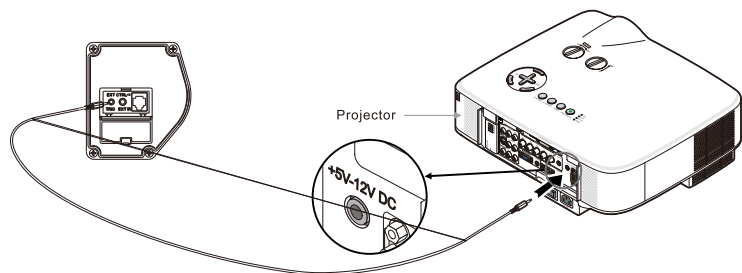

Figure 22
1. Insert one end of the trigger wire into the trigger jack located on the left side of the screen casing's end cap labeled "TRIG". (figure 22). Insert the other end into the 12V output.